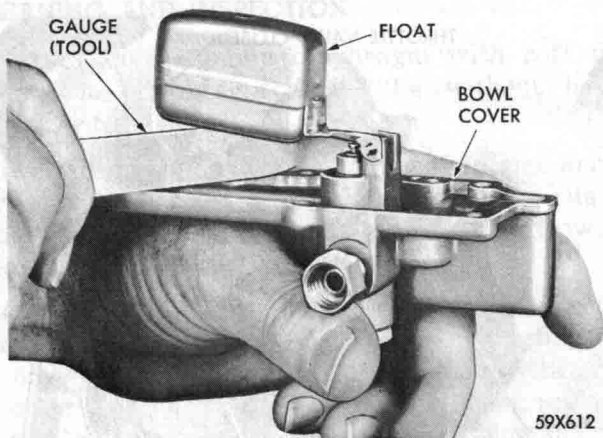

Fig. 55—Checking Float Height with Bowl Cover Inverted
(20) Check the float height with cover inverted and only the weight of the float on the inlet needle pin (Fig. 55). Hold cover level at eye height. The distance from cover to top of float should be  $\frac{9}{16}$  inch (gauge Tool T109-84). Adjust by bending float lever. Do not hold float shell while bending the lever.